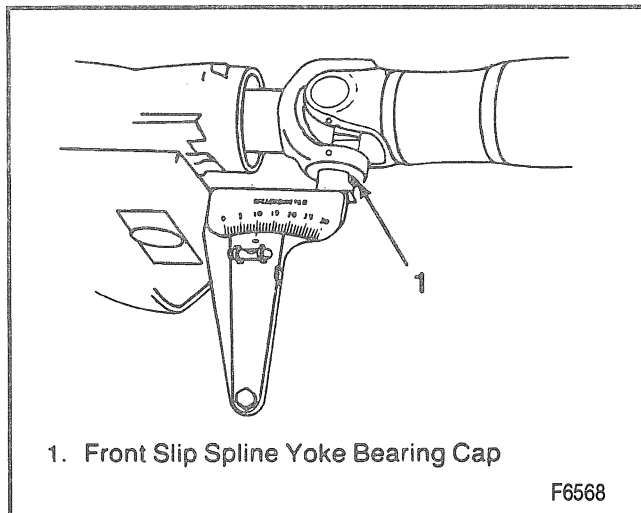

Figure 27—Measuring Front U-Joint Working Angle
2. Rotate the propeller shaft 90 degrees and place the inclinometer on the front slip spline yoke bearing cap (Figure 27). Center the bubble on the sight glass and record the measurement.